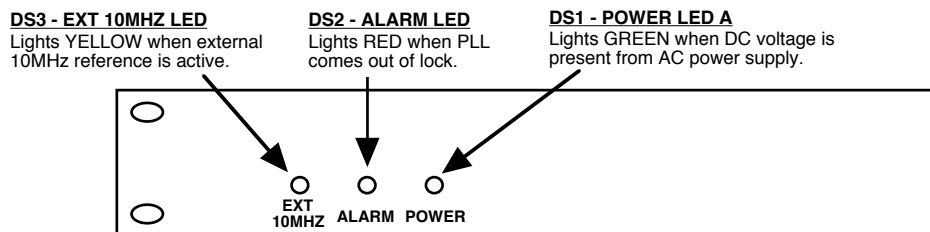

FIGURE 2.2 2116-125 Front Panel Controls and Indicators
Figure 2.2 shows the front panel indicators.
4. Be sure DS1 (green, DC Power) is on and DS2 (red, Alarm) is off (Figure 2.2).
6. If EXT is selected or AUTO is selected and there is a 10MHz, 3 dBm signal at J2, check that DS3 (yellow, Ext 10MHZ) is on (Figure 2.2).